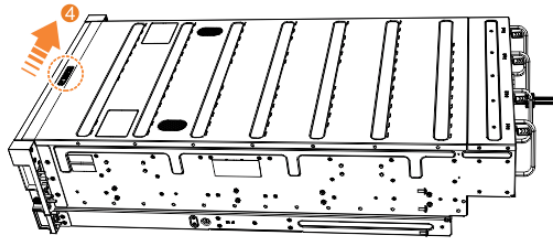

Figure 123. Locking the top cover
10. Lock the cover into position by sliding the release lever 4, as shown in Figure 123 on page 178